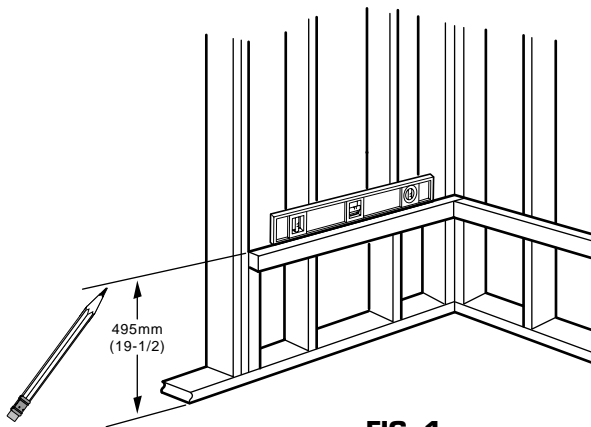

FIG. 1
1. Position the whirlpool into the installation opening and level the deck, shimming the integral support feet as necessary. Mark the final position of the underside of the deck by tracing a line on to the studs (see Figure 1).